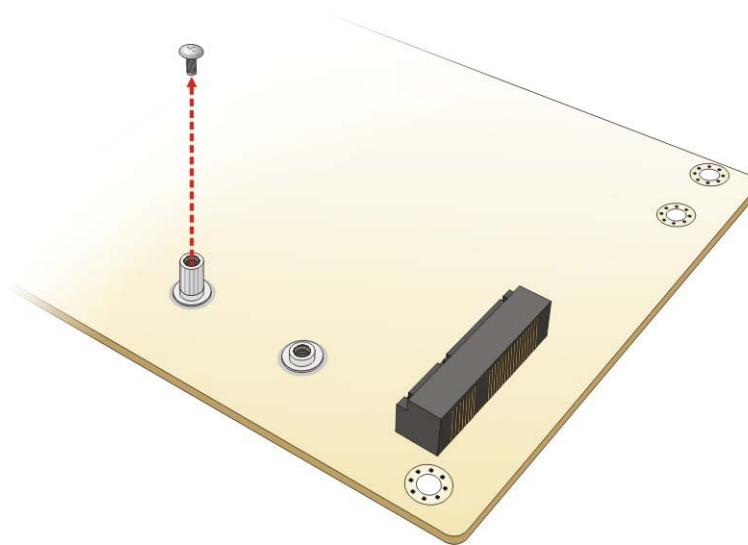

Figure 4-5: Removing the Retention Screw
**Step 2: Remove the retention screw.** Remove the retention screw as shown in **Figure 4-5**.